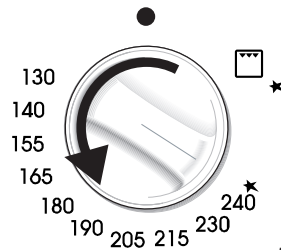

Fig. 2.2
The numbers printed on the control panel or on the knob (fig. 2.2) indicate the increasing oven temperature value (see table below).
- 2 – Lightly press and turn the thermostat knob anti-clockwise to the maximum position  (fig. 2.2). Press the knob firmly until the burner lights.